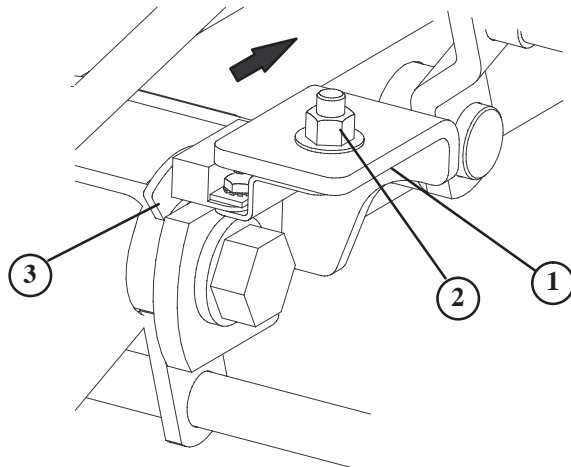

Figure 13
- Loosen the carriage bolt nut securing the lift arm switch bracket to the No. 4 lift arm (left front) (Fig. 13).